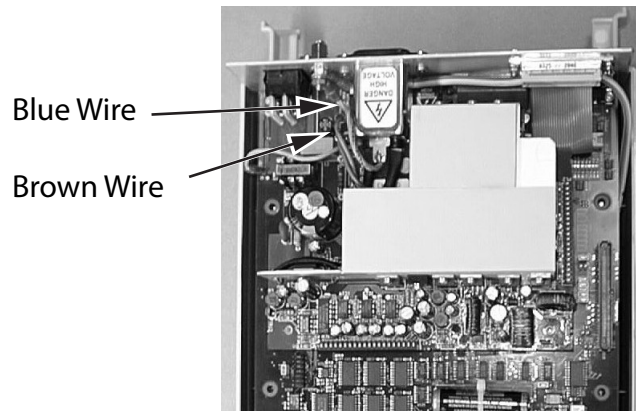

Figure 7-3.
3. Remove the PSU (Figure 7-3).